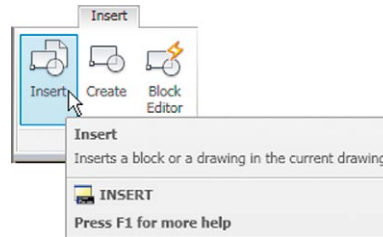
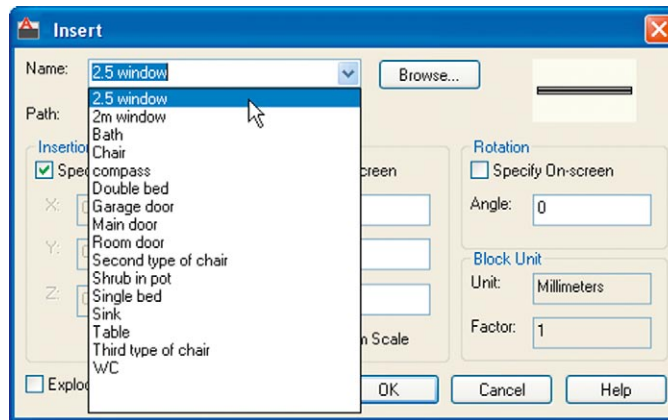

Fig. 9.6 The **Insert** tool icon in the **Home/Block** panel
Fig. 9.7 The **Insert** dialog with its **Name** popup list showing all the blocks
1. Left-click the **Insert** tool icon in the **Home/Block** panel (Fig. 9.6) or the **Insert Block** tool in the **Draw** toolbar. The **Insert** dialog appears on screen (Fig. 9.7). From the **Name** popup list select the name of the block which is to be inserted, in this example the **2.5 window**.